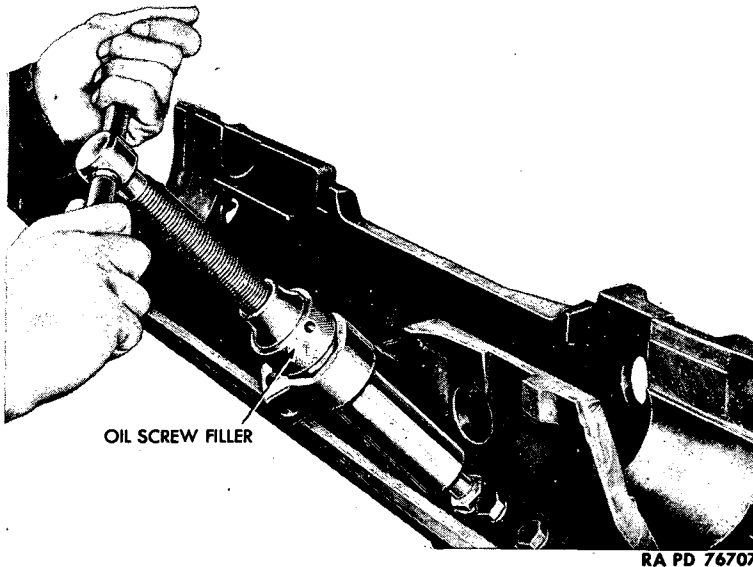

Figure 25—Establishing Oil Reserve
(5) Read the gage. The gage reading at this point represents the sum of the friction of the recoil piston and the friction in the recoil piston rod stuffing box.
(6) Obtain three consecutive uniform gage readings. **NOTE:** Exercise the piston by repeating operations (steps (3), (4), and (5), above) a sufficient number of times until the three consecutive gage readings are practically uniform. This is important since true friction readings cannot be obtained until the packings are well lubricated.
(7) The normal pressure necessary to overcome the combined friction of the recoil piston and piston rod stuffing box is 450 pounds per square inch. This may vary from 350 to 800 pounds per square inch. Recoil mechanisms having excessively low or high friction should be reported to the Chief of Ordnance (par. 24).
(8) Re-establish the oil reserve in the system (TM 9-320) (fig. 25).